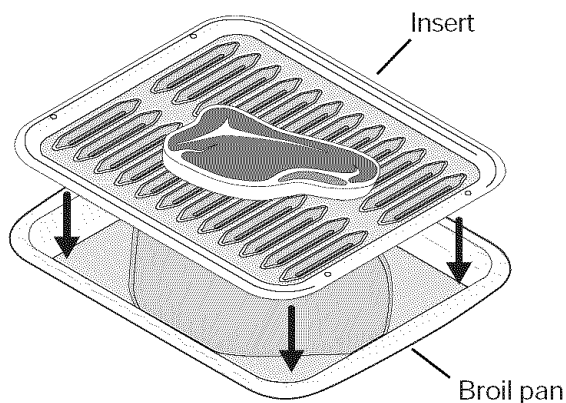

Fig. 1
- Use the recommended pans and oven rack positions for the type of meat being prepared - p.23 Figs. 1, 2 & 3-
The broil pan insert (if equipped) contains slots that allows grease from the meat to drain into the broil pan. Place prepared meat on broil pan insert and then place onto broiler pan as shown -*Fig. 1*.